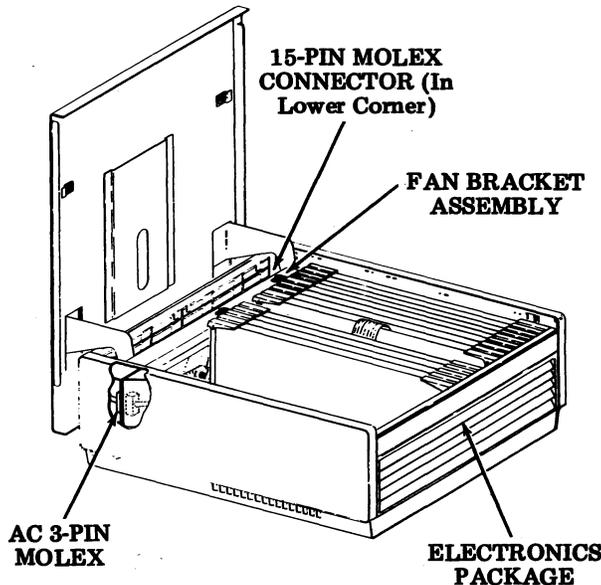

Fig. 25—Electronics Package in Cabinet
4.67 Remove the ac cable by unplugging the 3-pin Molex connector from the left rear of the electronics package. Unplug the 15-pin Molex connector from the display logic module at the right rear of the electronics package (Fig. 25).